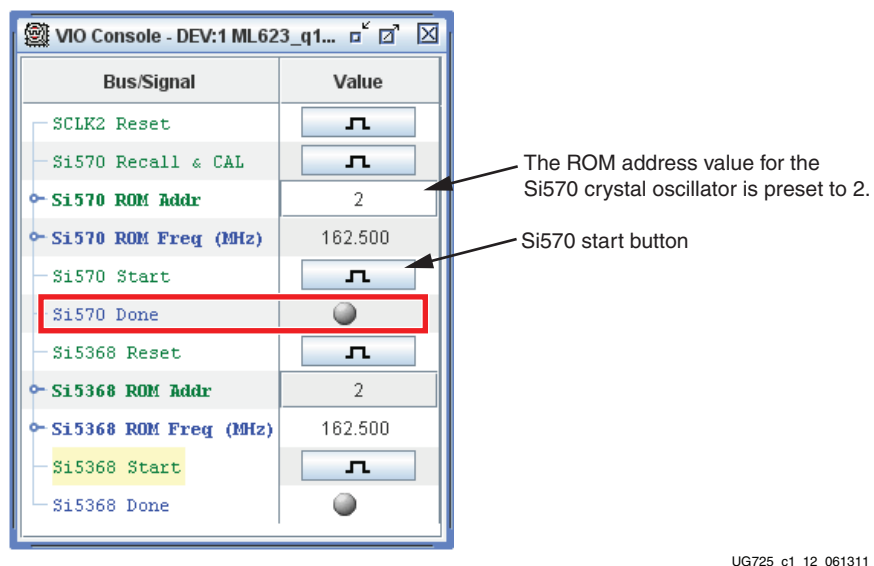

Figure 1-12: VIO Console, Si570 Initialization
- b. If using the Si570 crystal to source the GTX transceiver clocks, click the Si570 Start button (Figure 1-12). A transition arrow flashes ON/OFF to the right of **Si570 Done** when the command is complete.